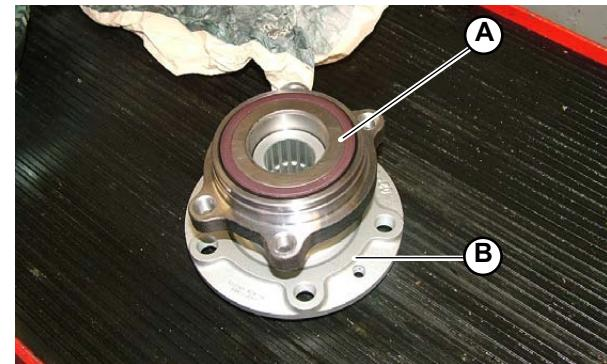

Fig.3
1. Using a press, assemble the bearing (A-Fig.3) on the hub (B-Fig.3).